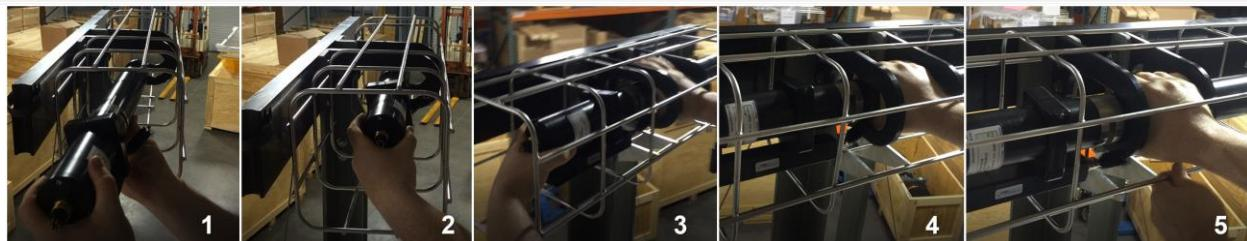

Figure 62. Reinstall SUNA from Dual PAR SUNA Mount Cage Clamps (Source: YSI Mechanical Engineer, Allen Hunter)
STEP 4 | To reinstall, slide the SUNA into the cage until the wiper is almost flush with the first black clamp (Picture 1-4 in Figure 62). Reach in-between the cage and pull and the SUNA toward you until it locks into place (Picture 5 in Figure 62). Reference AD [06] to conduct field calibrations and validations for the SUNA.